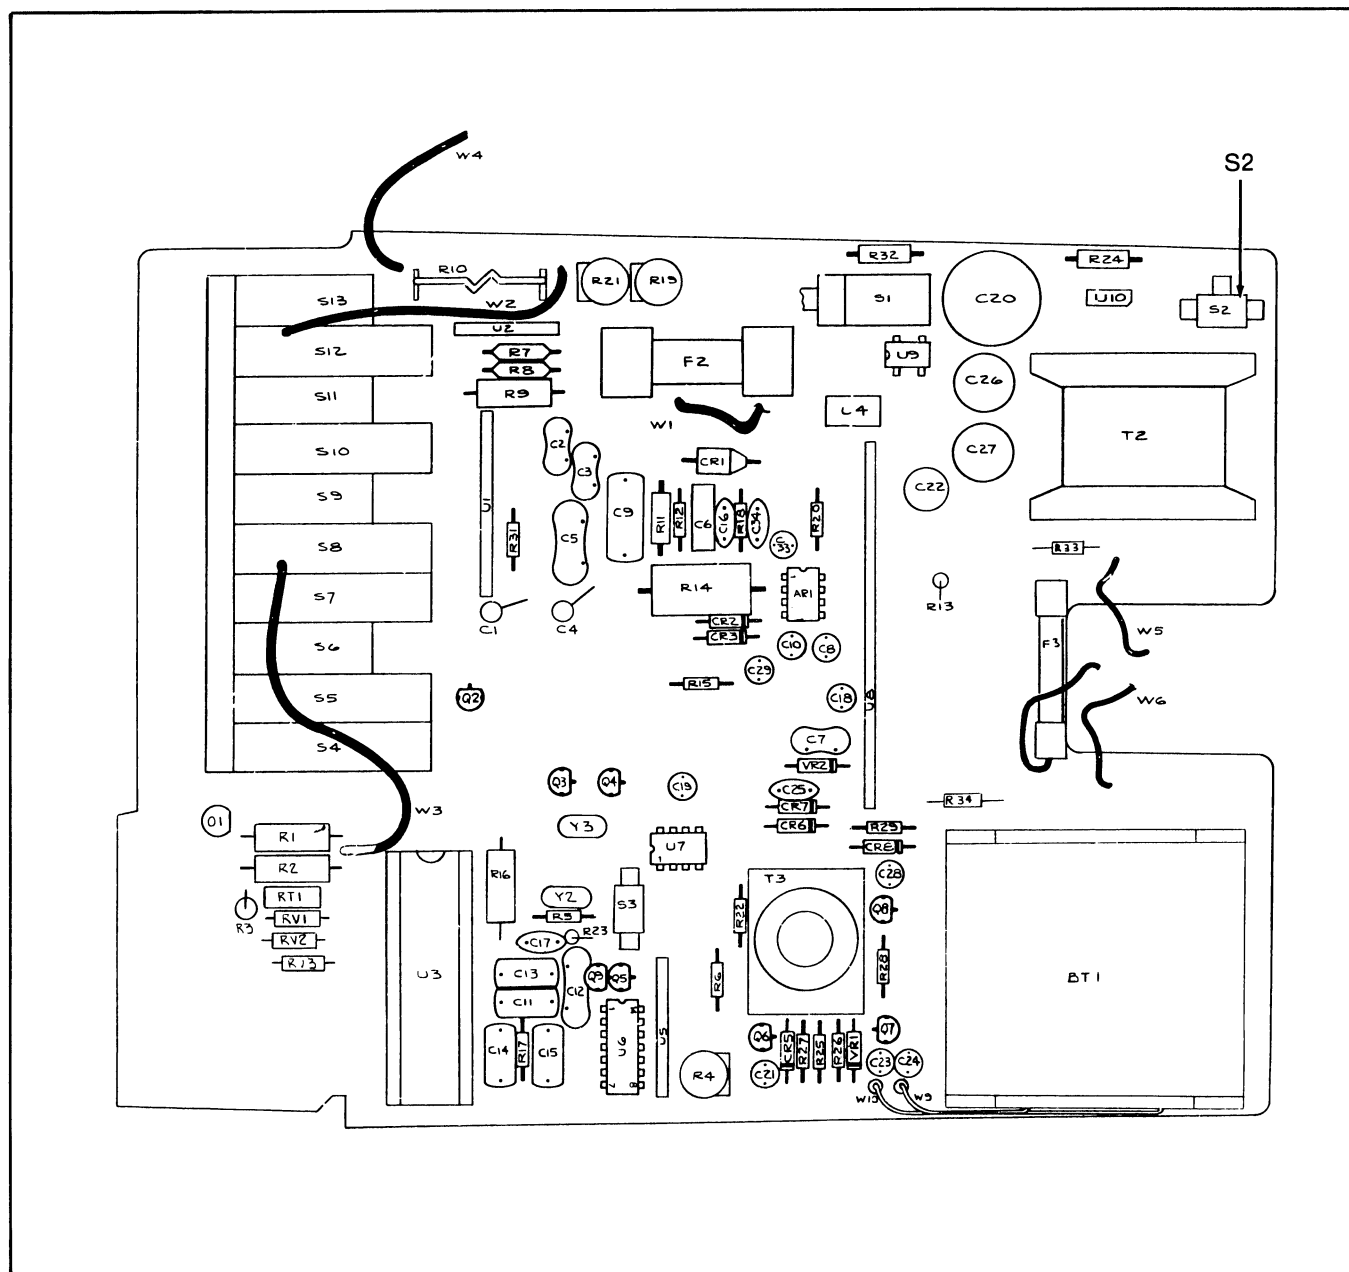

Figure 601-1. Line Switch (S2) Location
2. Refer to Figure 601-1 for the location of the ac line switch S2, on the Main PCB Assembly.
2. Refer to Figure 601-1 for the location of the line frequency selection switch S3, on the Main PCB Assembly.
601-27. Table 601-2 lists the replaceable parts for the 8010A-01 and 8012A-01 Multimeters. Figures 601-1 and 601-2 show the component locations for 8010A-01 and 8012A-01 Multimeters.